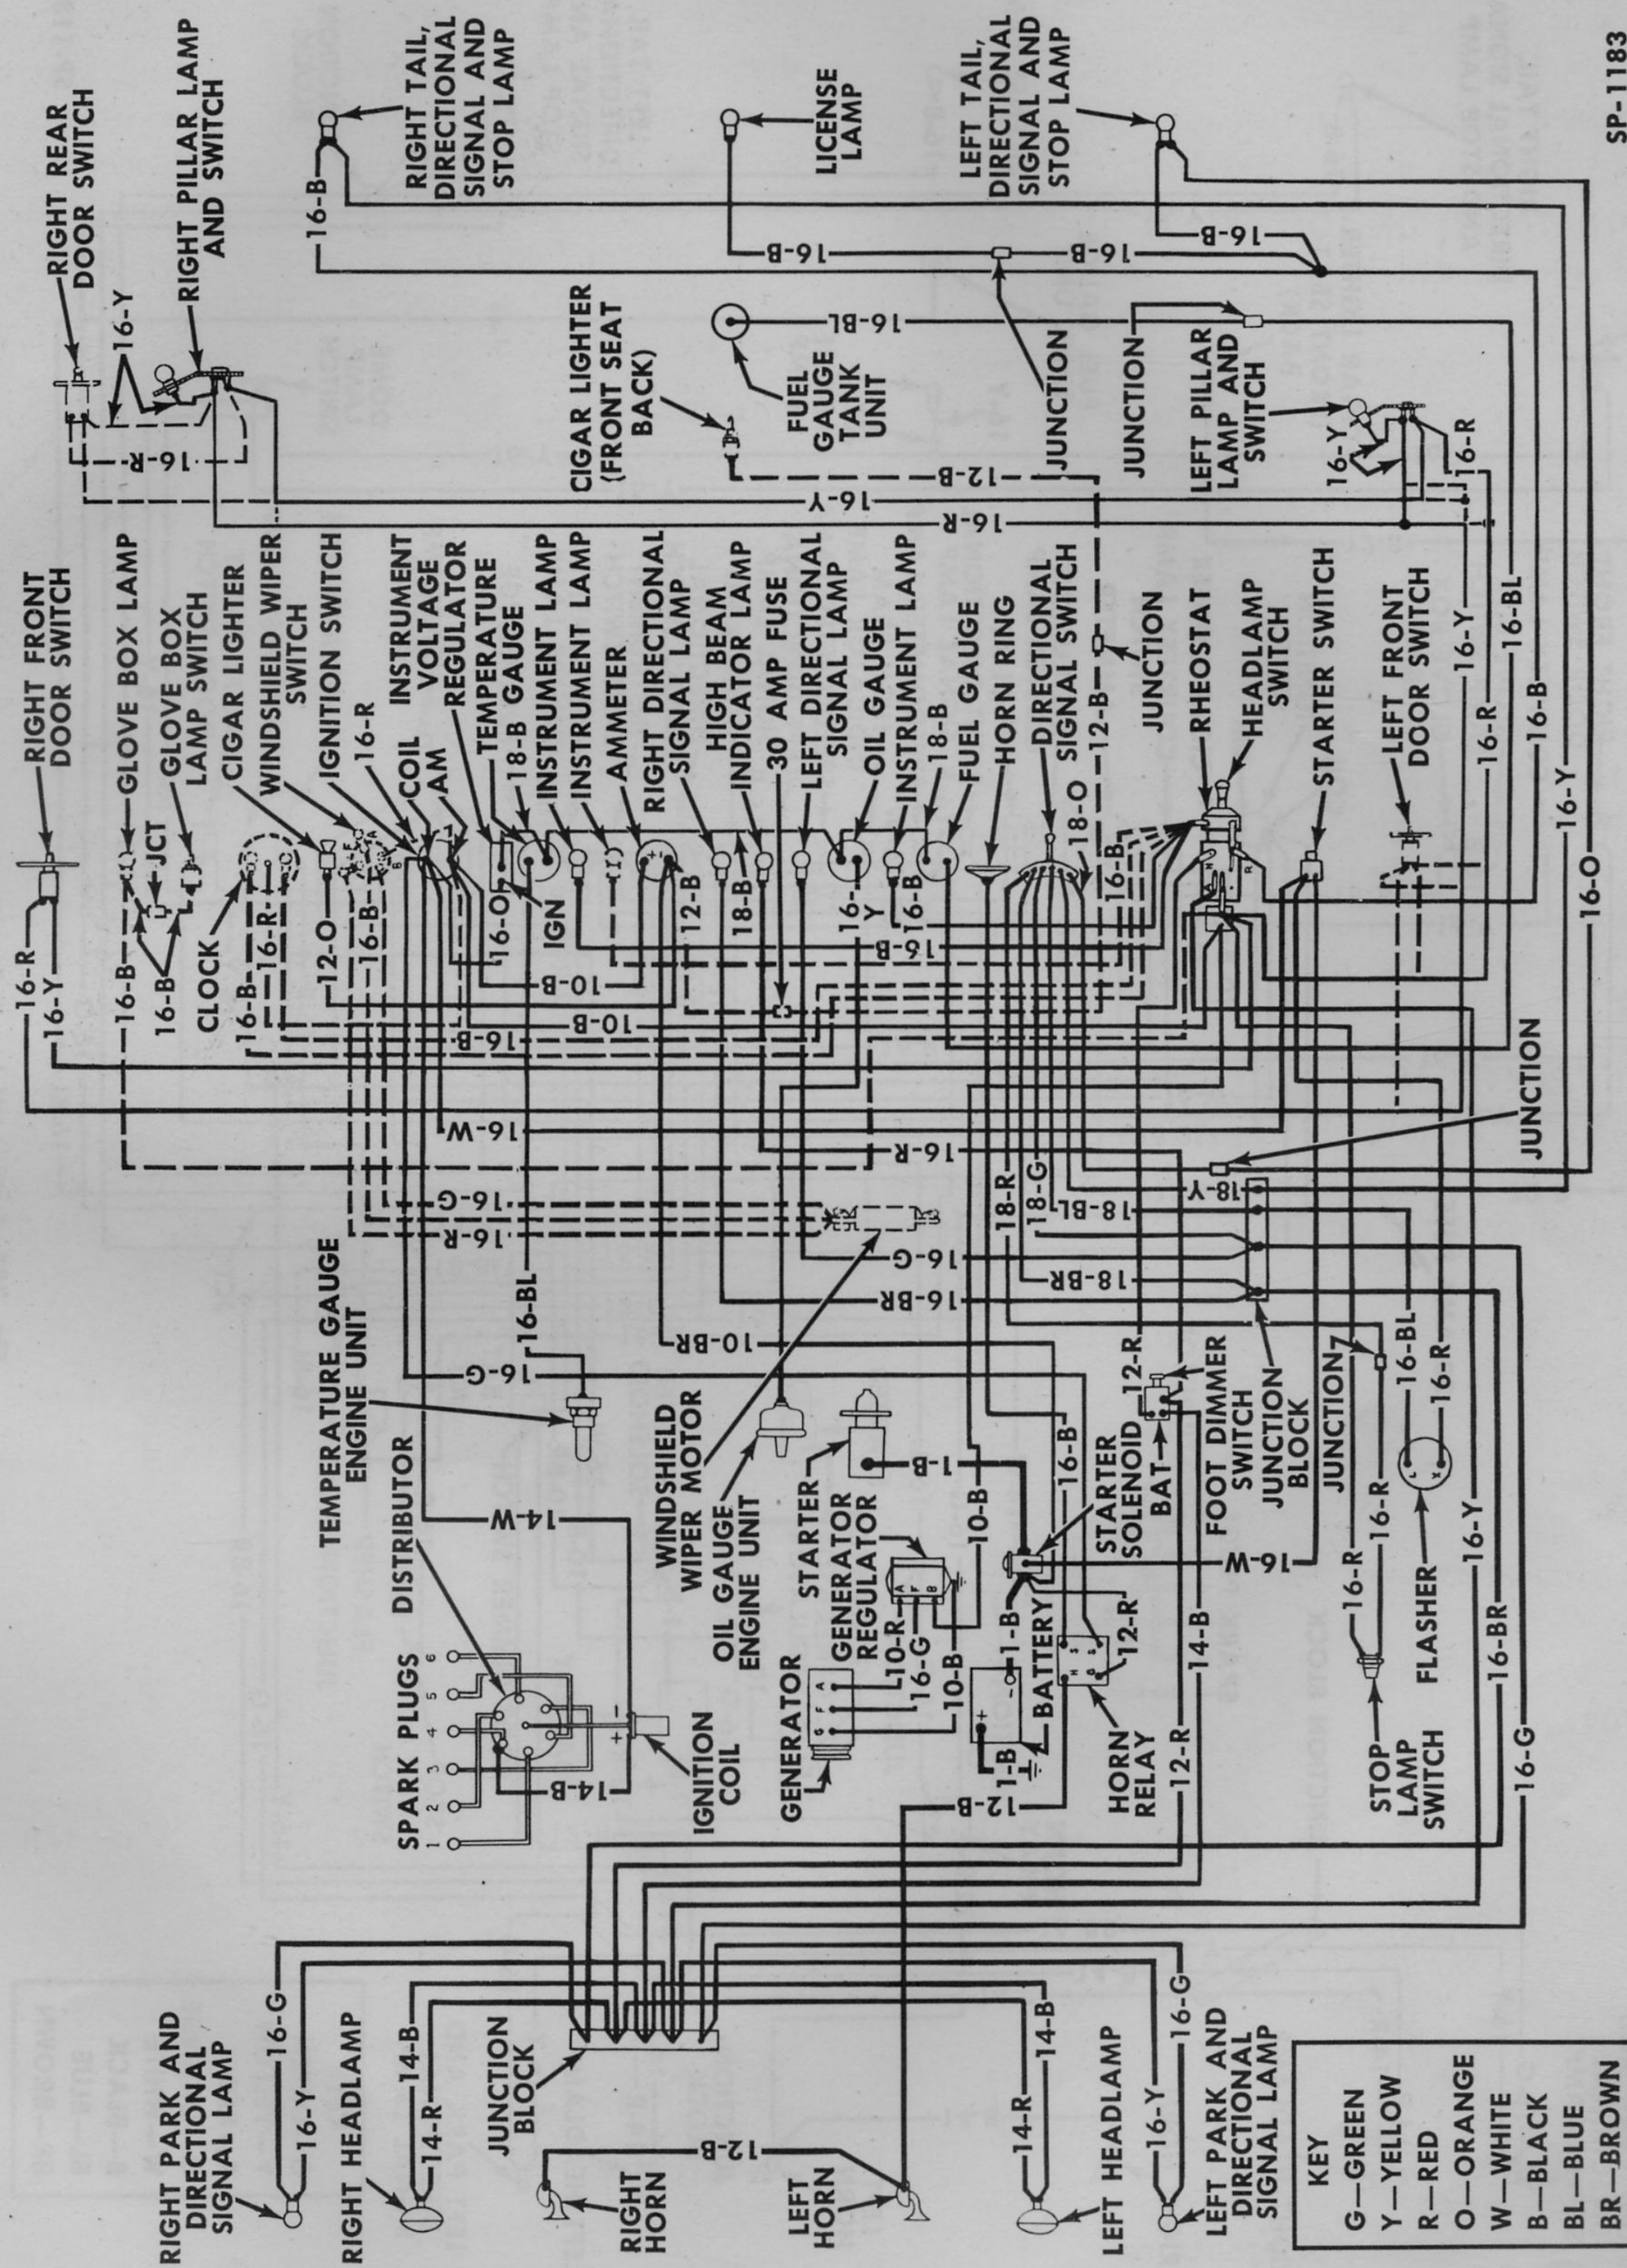
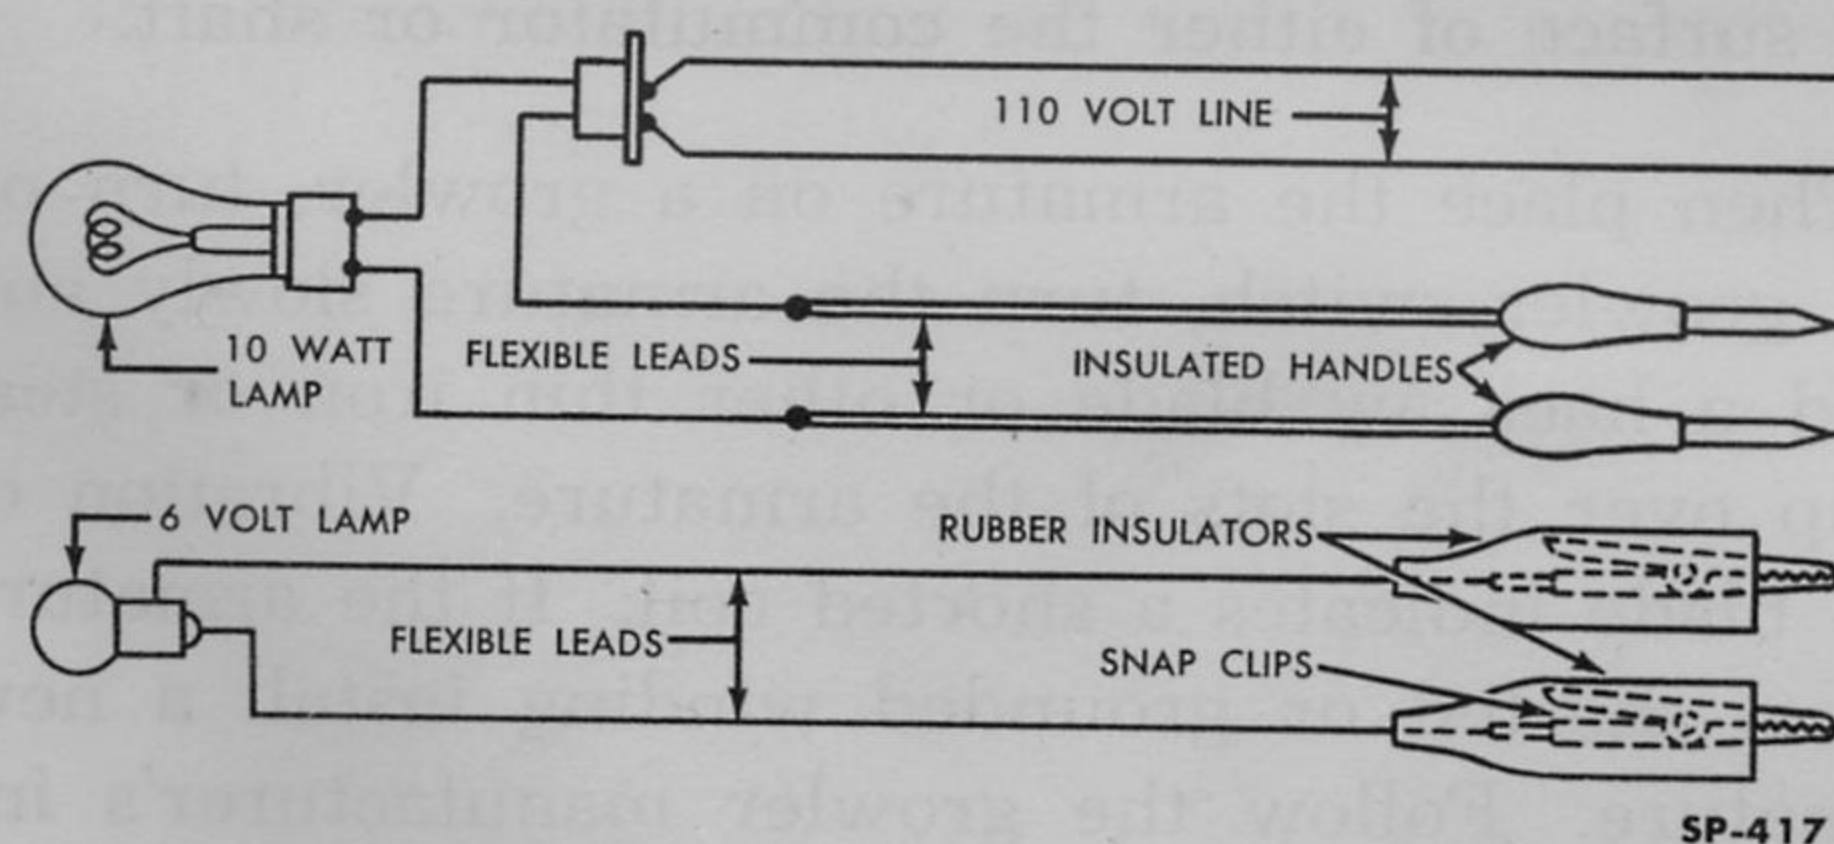

Fig. 380—Kaiser Wiring Diagram
Fig. 389—110-Volt and 6-Volt Test Lights
Schematic diagrams of electrical wiring in Kaiser and Frazer models are shown in Figs. 380, 381, 382, 383 and 435. Test probes and 6-volt test light for checking continuity of circuits, and for locating or determining the existence of short circuits and grounds, are illustrated in Fig. 389. Typical uses of test probes, test light, voltmeter, and other test equipment are explained in several parts of this Section.
4. Wiring and Terminal Connections. Check the tightness of terminals at the generator and regulator and the condition of the insulation of connected wiring and cables. Use a voltmeter or a suitable test lamp. Test probes connected with a 110-volt light, and a 6-volt test lamp with suitable test leads, for checking continuity of circuits and for locating or determining the existence of grounds, are illustrated in Fig. 389. The manuals for bench test
e. GENERATOR OVERHAUL. A generator can be disassembled, the component parts cleaned and tested, and needed new parts installed to the extent covered in the following procedure with a very small investment in special tools. Among the items required are: test points connected with a low wattage 110-volt lamp, and a 6-volt test lamp with insulated leads and snap terminals (Fig. 389); a voltmeter reading 0-10 (Ignition and Lighting Voltmeter C-537); a commutator turning and undercutting tool (Armature Turning and Undercutting Tool C-770); and an inexpensive growler.
(a) Test Brush Holders. Use test probes (Fig. 389), one point on the insulated holder and the other to the ground, on the end plate for possible grounded holder. Test the other holder to be sure it is grounded.
2. Quick Checks of Regulator and Generator Performance. Before checking these units check the battery and battery cable terminals. If the generator does not "charge," inspect the terminals of the wires or cables that connect the generator and regulator. The manuals for bench test equipment contain instructions regarding the use of instruments and the test probes and test lamps illustrated in Fig. 389 for detecting excessive resistance, for testing circuit continuity and for finding grounded circuits.